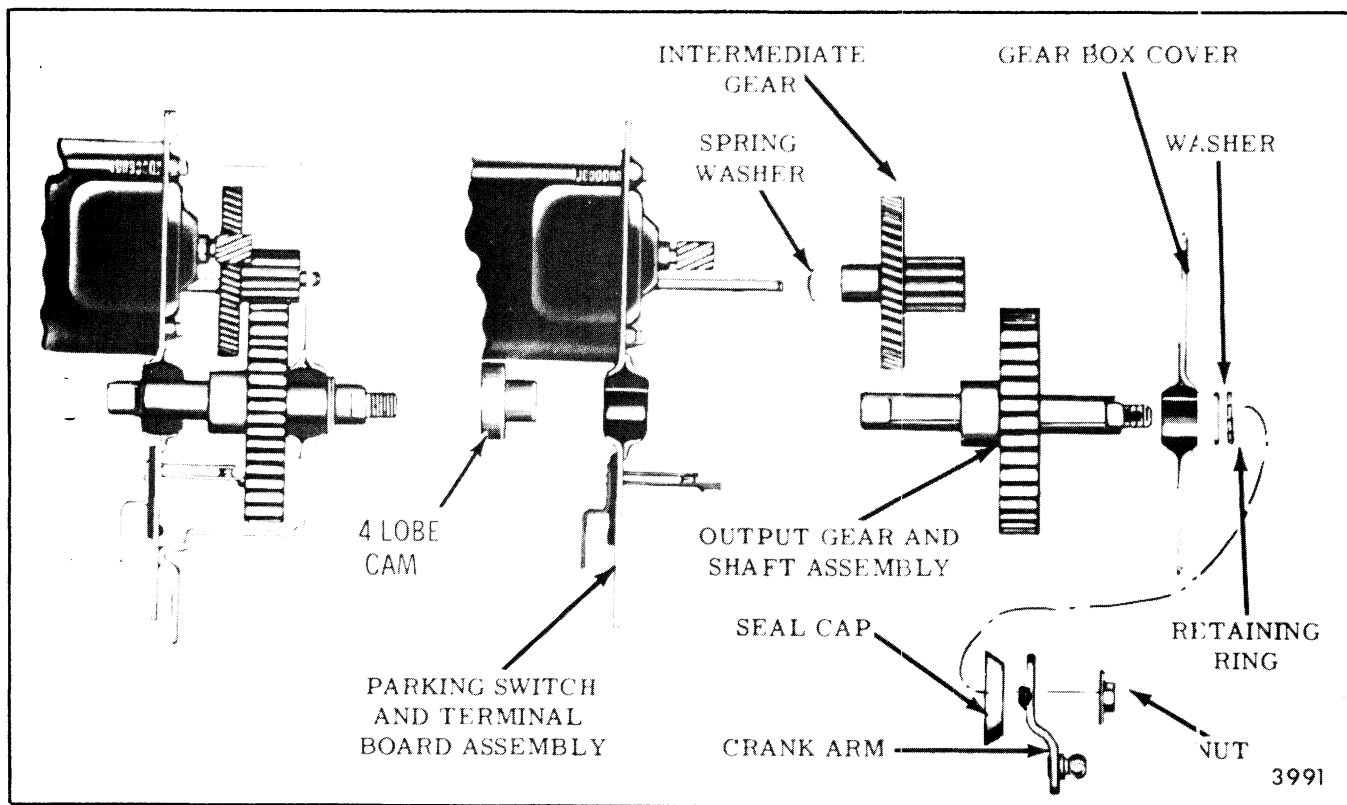

Fig. 2-12-Gear Box
3. Remove crankarm, seal cap, Tru-Arc retaining ring and end play washers (Fig. 2-12).
6. Reassemble end play washers and retaining ring over output gearshaft (Fig. 2-12). Use end play washers as required to obtain .005" maximum end play.
1. Support crankarm end of wiper output shaft (threaded end) and using a suitable mallet, drive the four lobe cam on the wiper output shaft until it bottoms against the shoulders of the shaft flats (Fig. 2-12).